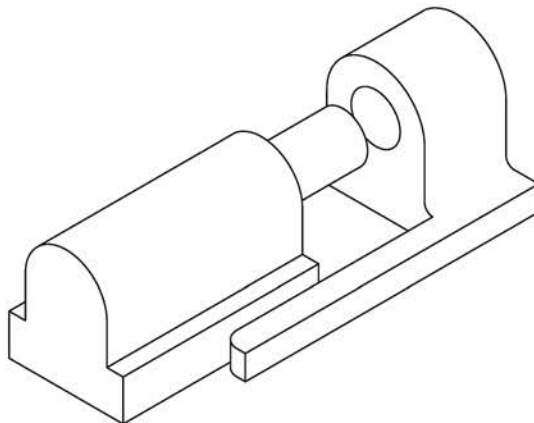
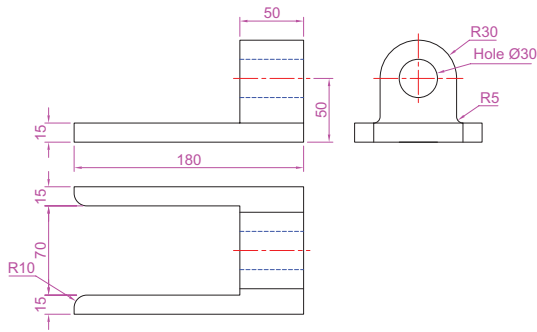

Fig. 8.25 Exercises 1, 2 and 3 – an isometric drawing of the three parts of the slider on which these exercises are based
Fig. 8.26 Exercise 1
Fig. 8.25 is an isometric drawing of a slider fitment on which the three exercises **1**, **2** and **3** are based.
1. Fig. 8.26 is a first angle orthographic projection of part of the fitment shown in the isometric drawing Fig. 8.25. Construct a three-view third angle orthographic projection of the part.